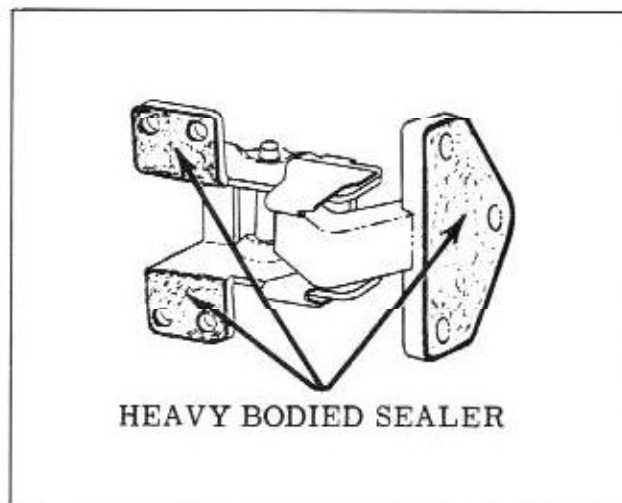

Fig. 15-28 Front Door Hinge Assembly
1. As an anti-squeak precaution and to prevent entry of water into body at hinge attaching bolt locations, coat attaching surfaces of hinges with heavy-bodied sealer prior to installing door. (Fig. 15-28)
When installing, as an anti-squeak precaution, coat attaching surfaces of hinges with heavy-bodied sealer prior to installing door. (Fig. 15-28)